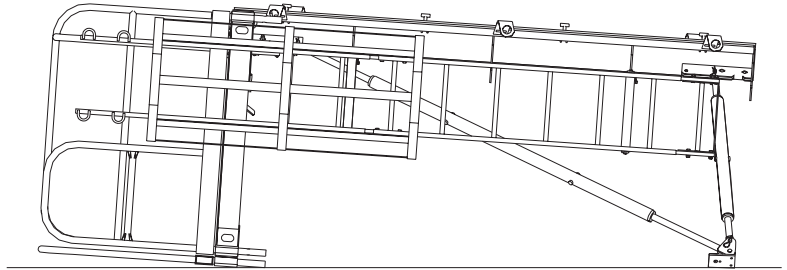

Fig.27
6. To clean the column element, lay it down on the circular column platform (see following page). Fig. 27 + 27a